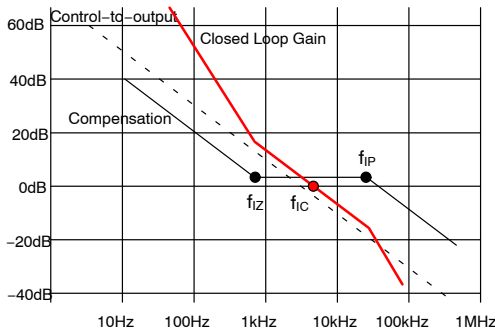

Figure 11. Current Loop Compensation
3. Since the control-to-output transfer function of the power stage should have  $-20$  dB/decade slope and  $-90^\circ$  phase at the crossover frequency of  $0$  dB as shown in Figure 11, it is necessary to place the zero of the compensation network ( $f_{IZ}$ ) around one third ( $1/3$ ) of the crossover frequency so that more than  $45^\circ$  phase margin is obtained. So, the capacitance  $C_{IC1}$  is determined as: